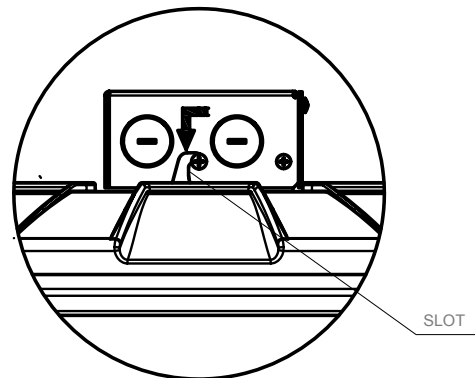

Figure 2
2. Remove the junction box from the fixture along the direction of the slot. See Figure 2.